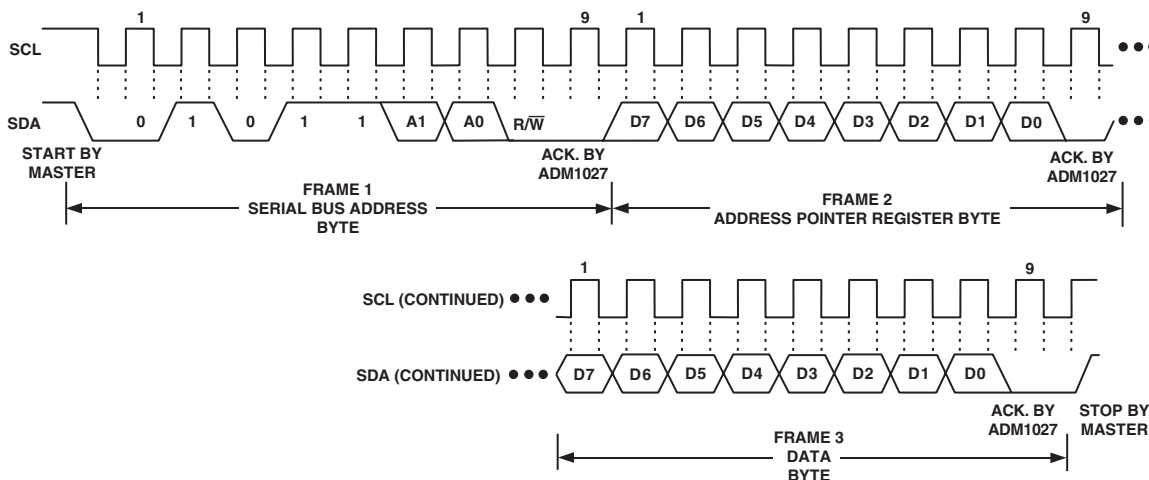

Figure 6. Writing a Register Address to the Address Pointer Register, Then Writing Data to the Selected Register
This is illustrated in Figure 6. The device address is sent over the bus followed by R/W being set to 0. This is followed by two data bytes. The first data byte is the address of the internal data
2. In Figures 6 to 8, the serial bus address is shown as the default value 01011(A1)(A0), where A1 and A0 are set by the Address Select Mode function previously defined.